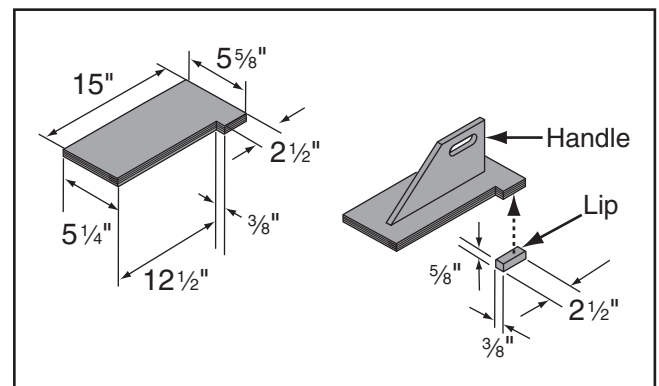

Figure 119. Push block dimensions and construction.
3. Using the $\frac{3}{4}$ " material you used in the previous steps, cut out pieces for the push block per the dimensions shown in **Figure 119**; for the handle, cut a piece 10" long by 5"–9" high and shape it as desired to fit your hand.